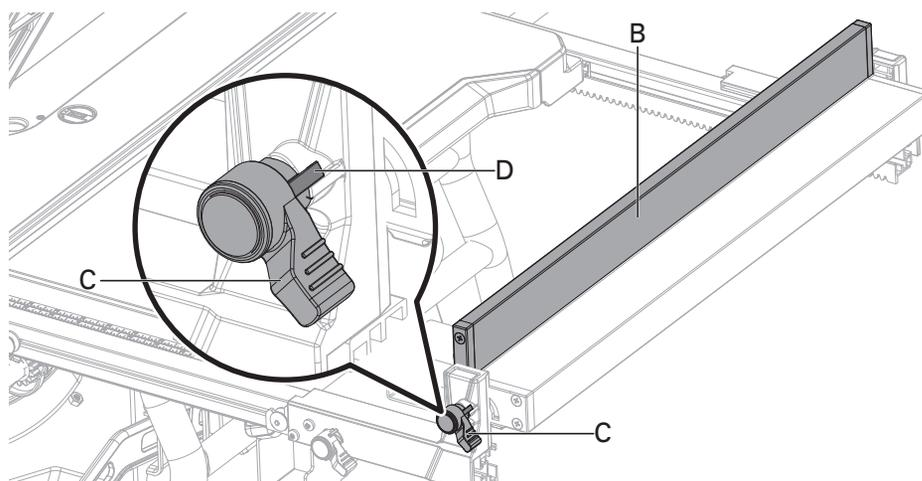

Fig. 20c
To lock the narrow fence (B), turn the locking lever (C) as shown in Fig. 20c until it presses against the rib (D).
Sub fence assembly (Fig. 20c-20e)
- Rotate the narrow fence to the position as shown in Fig. 20c.